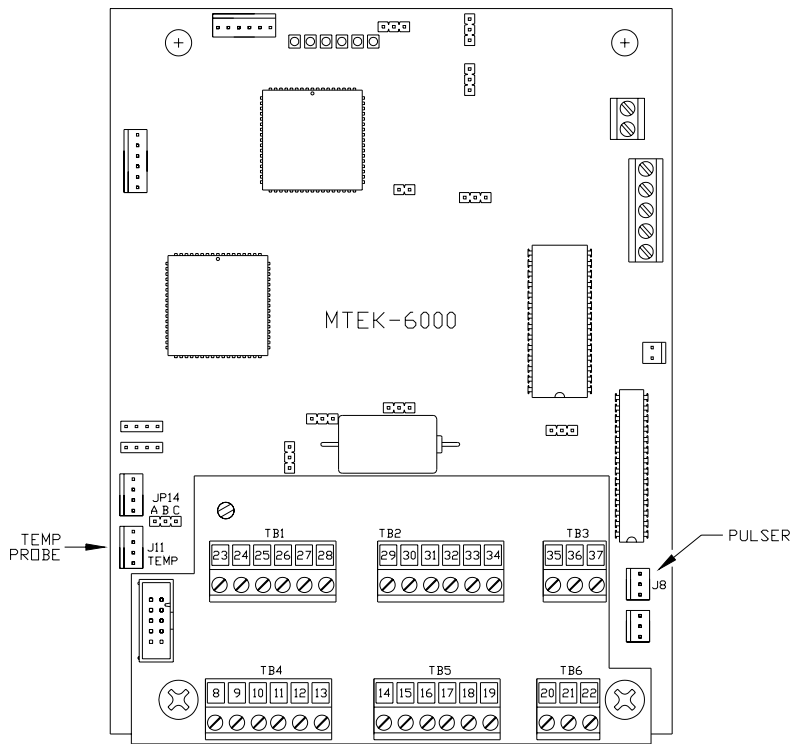

Figure-9.
- Connect the pulser cable to the J8 connector (reference Figure-9).